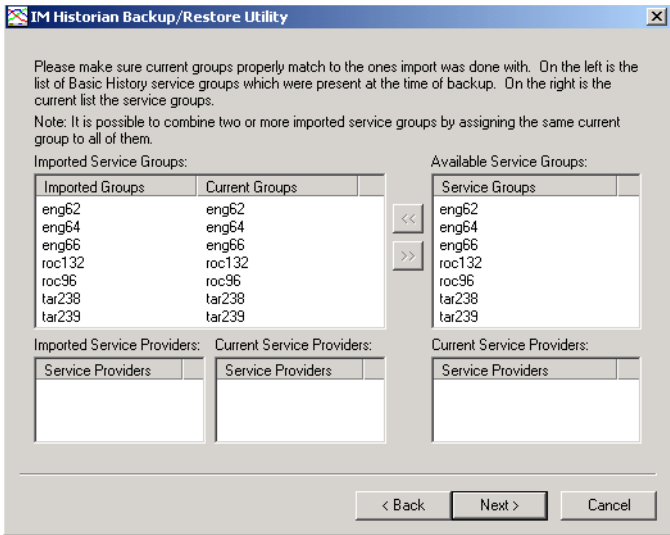

Figure 311. Checking Service Groups
- 5. Use the dialog in Figure 311 to make sure the imported Service Groups are properly mapped to the Service Groups that currently exist in the Aspect Directory. On rare occasions there may be a problem if Service Group configurations in the Aspect Directory have changed.